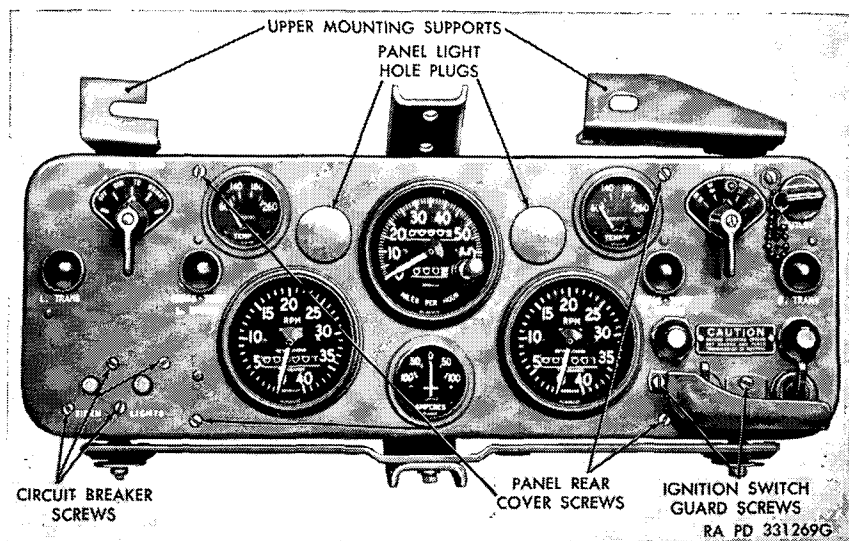
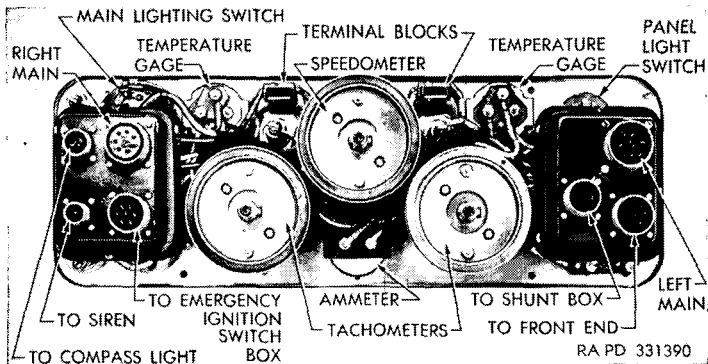

Figure 100. Instrument panel.
Figure 102. Instrument panel connections rear cover removed.
k. **REMOVAL OF WARNING SIGNAL AND INSTRUMENT PANEL LIGHTS.** The lamps for the warning signals and for panel illumination can be replaced readily without disturbing the panel itself. First use a screwdriver to pry the access plug for the panel lamps or the ruby lens for the warning signals (fig. 100) from the panel. Then depress the lamp slightly, turn counterclockwise to release bayonet type catch, and remove lamp.
a. **REMOVAL.** Remove instrument panel from vehicle (par. 133). Remove two terminal nuts (fig. 102) and disconnect cables from ammeter. Remove two mounting nuts from terminal studs, slide mounting clamp off studs, and remove ammeter from front of panel.
b. **INSTALLATION.** Position ammeter in opening in panel and install mounting clamp at rear. Install two mounting nuts on terminal studs, position cables on studs (fig. 102), and install terminal nuts. Install panel in vehicle (par. 133).
a. **REMOVAL.** Turn master battery switch "OFF." Remove instrument panel (par. 133). Take out three mounting screws for right-hand conduit box at back of instrument panel (fig. 102) and pull box out far enough to permit access to rear of ignition switches. Disconnect cables that are to be removed. Turning to face of panel, remove two screws holding guard to panel (fig. 100). Unscrew knurled nut around switch lever and remove nut. Push switch and lever back and out of panel.
a. **REMOVAL.** Turn master battery switch "OFF." Remove instrument panel from vehicle (par. 133). Take out three screws for right-hand conduit box at rear of instrument panel (fig. 102) and pull box out far enough to permit access to starting switches. Disconnect cables at rear of switch to be removed. Turning to face of
a. **REMOVAL.** Remove instrument panel from vehicle (par. 133). Remove two nuts and washers (fig. 102) and remove mounting bracket